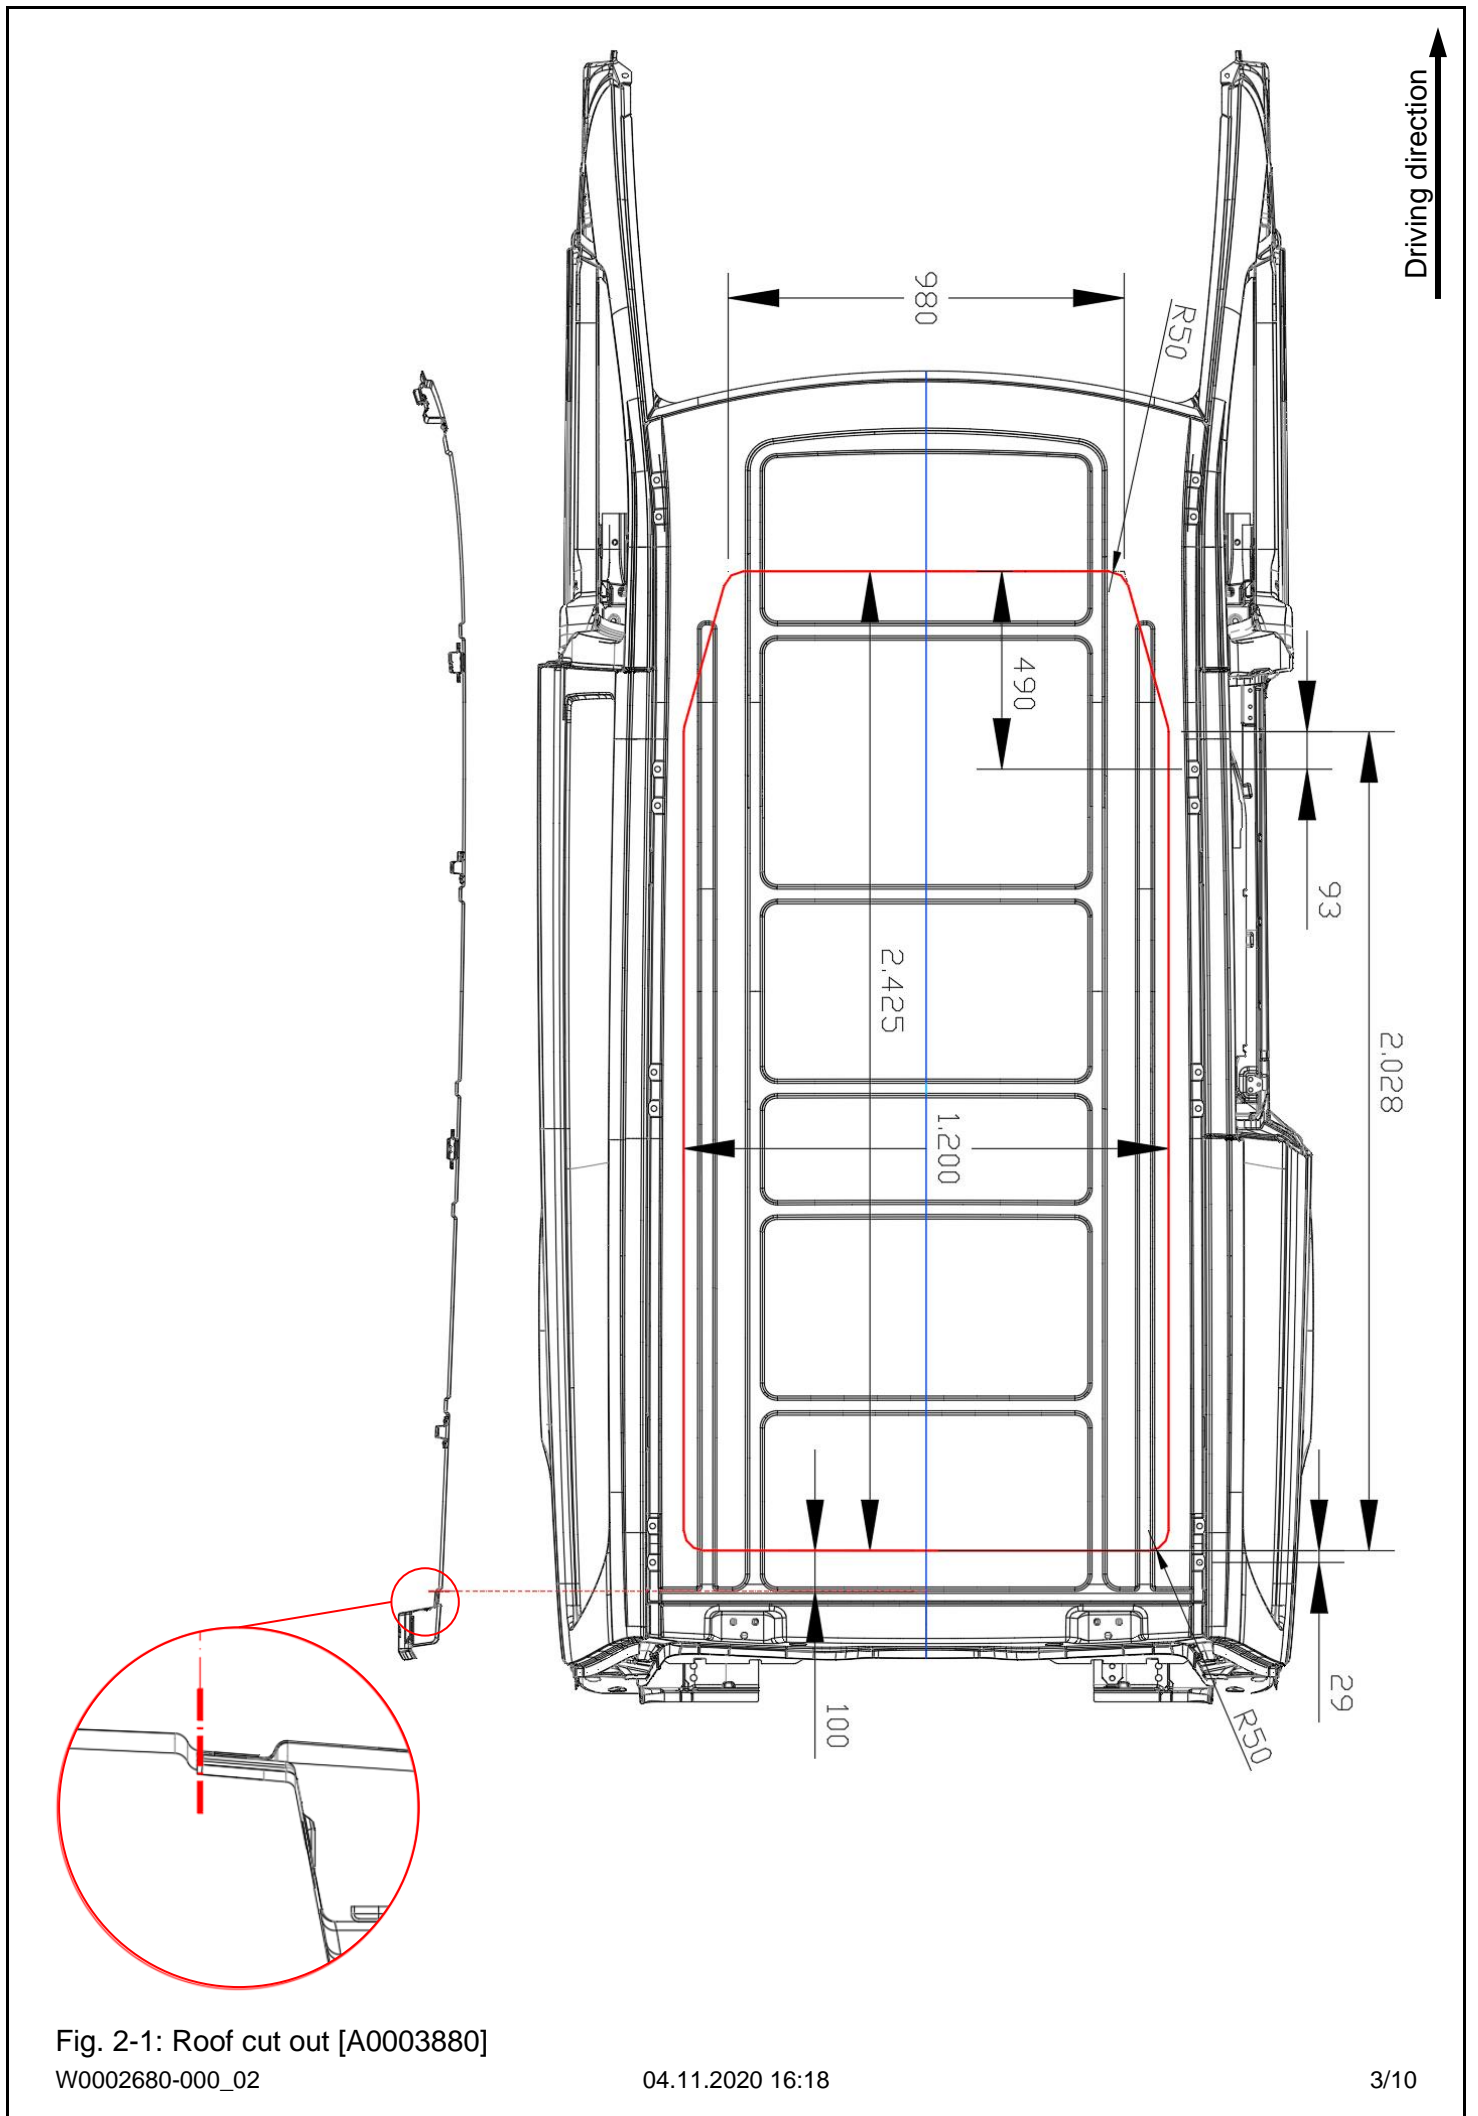

Fig. 2-1: Roof cut out [A0003880]
- Mark and check the Dimensions on the vehicle roof as shown in Fig. 2-1